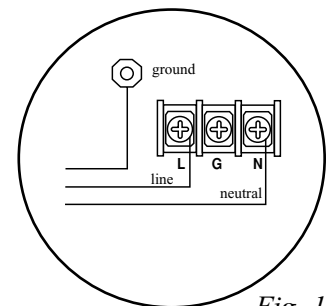

Fig. 1
1. Mount unit in the desired location. Mark and predrill holes in the wall to line up with the top two keyholes in the enclosure. Install two upper fasteners and screws in the wall with the screw heads protruding. Place the enclosure's upper keyholes over the two upper screws; level and secure. Mark the position of the lower two holes. Remove the enclosure. Drill the lower holes and install two fasteners. Place the enclosure's upper keyholes over the two upper screws. Install the two lower screws and make sure to tighten all screws (*Enclosure Dimensions, pg. 12*). Secure enclosure to earth ground (*Fig. 1, pg. 3*).
2. Connect green lead to earth ground (*Fig. 1*). Connect the line (L) and neutral (N) terminals to a separate unswitched AC circuit (120VAC, 60Hz) dedicated to the Fire Alarm System.